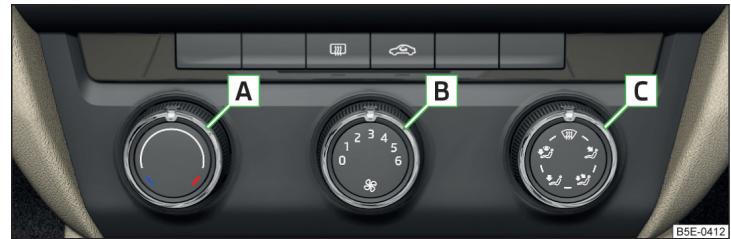
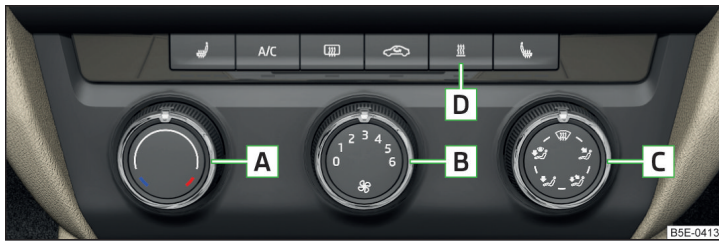

Fig. 127 Heating Controls
Fig. 128 Controls of the manual air conditioning
Functions of the individual controls » Fig. 127 and » Fig. 128
- The warning light below the button **A/C** » Fig. 128 illuminates after activation, even if not all of the conditions for the function of the cooling system have been met. The lighting up of the indicator light in the button signals the operational readiness of the cooling system.